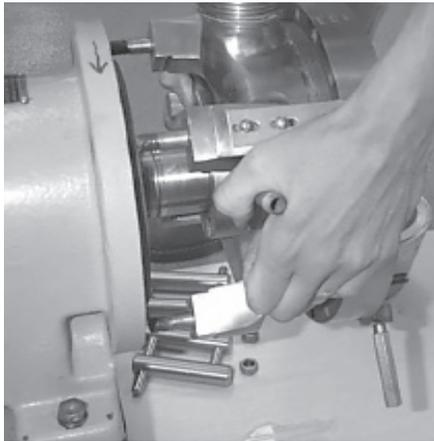

Figure 23 - Remove body
3. Slide the body forward off the shaft (Figure 23).